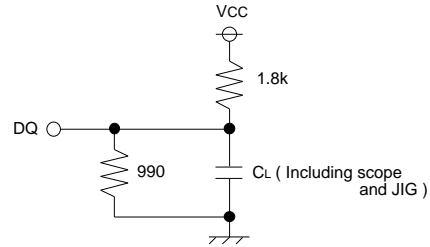

Fig.1 Output load
- Output loads ..... Fig.1, CL = 100pF(-10L,-10LL)